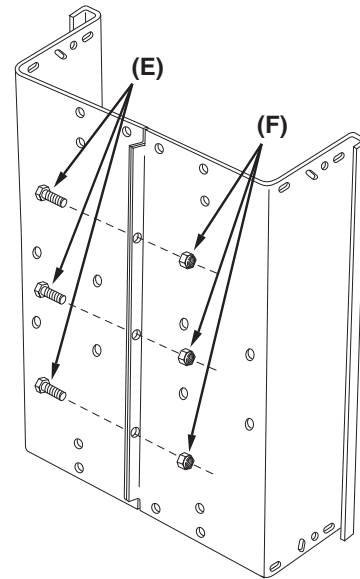

Figure 1
**STEP 1 (SEE FIGURE 1):** Assemble the cart body using three 1/4" x 3/4" hex bolts (E) and 1/4" nylock nuts (F). **Do Not Tighten!**